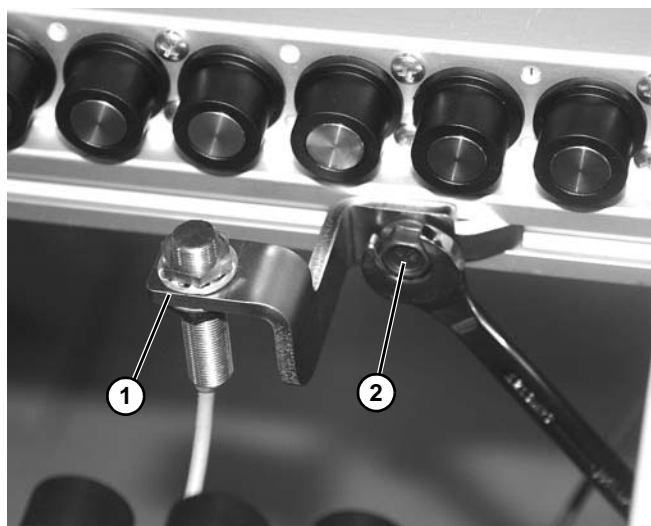

Figure 2
2. Attach sensor (**Figure 2, item 1**) to conveyor with screw (**Figure 2, item 2**).